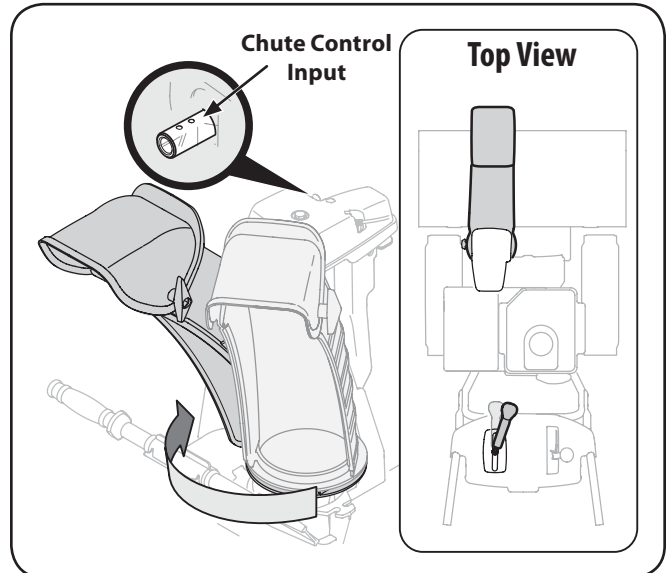

Figure 3-6
4. Squeeze the trigger on the joystick and rotate the chute by hand to face forward. The holes in the chute control input will be facing up. See Fig. 3-6.
NOTE: The joystick will be angled slightly to the right at the one o'clock position. See "Top View" in Fig. 3-6.